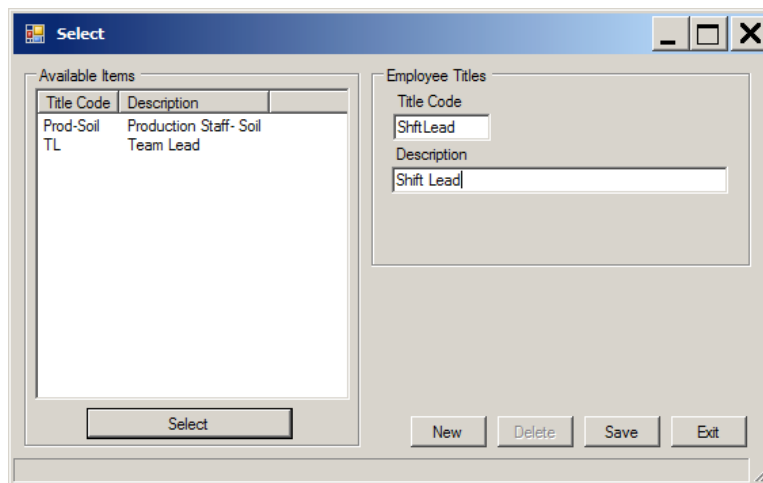

Figure 32. Select Title Dialog.
3. Click the button **>>** to the right of the **Title** field on the *Employee Details* dialog. This opens the *Title Selection* dialog window (see Figure 32).
You can create a new title using the *Title Selection* dialog (see Figure 32).